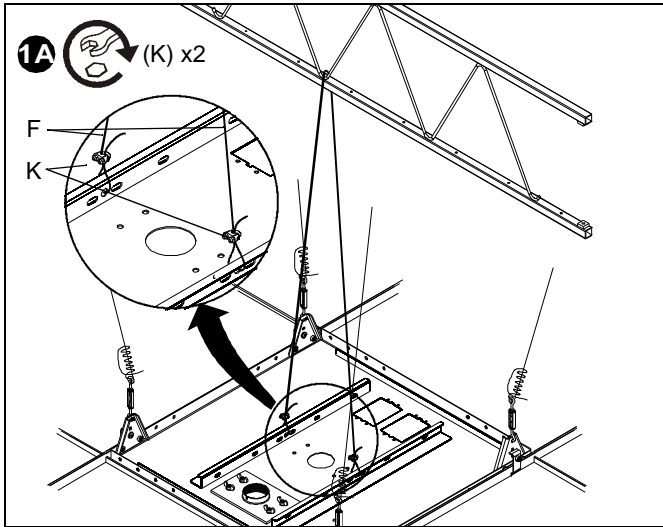
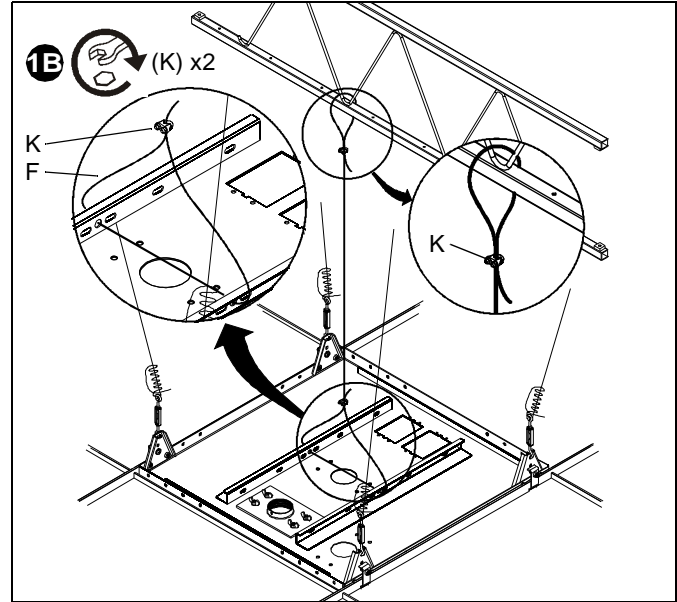

Figure 13
Figure 14
- A. For ceiling structure less than 4' (1.2m) from ceiling tray (A) (See Figure 13):
- Attach one end of cable (F) to channel in tray (A). Secure with wire clamp (K).
- Route opposite end of cable (F) over truss, and attach to opposite channel in tray (A). Remove cable slack and secure with wire clamp (K).
- B. For ceiling structure from 4 - 7' (1.2 - 2.1m) from ceiling tray (A) (See Figure 14):
- Route one end of cable (F) over truss and secure to itself with wire clamp (K).
- Route opposite end of cable (F) through *both* channels in tray (A). Remove cable slack and secure to itself with wire clamp (K).
- C. For ceiling structure more than 7' above tray (A):
- Attach cable to tray (A) per step 1.A. or 1.B. above.